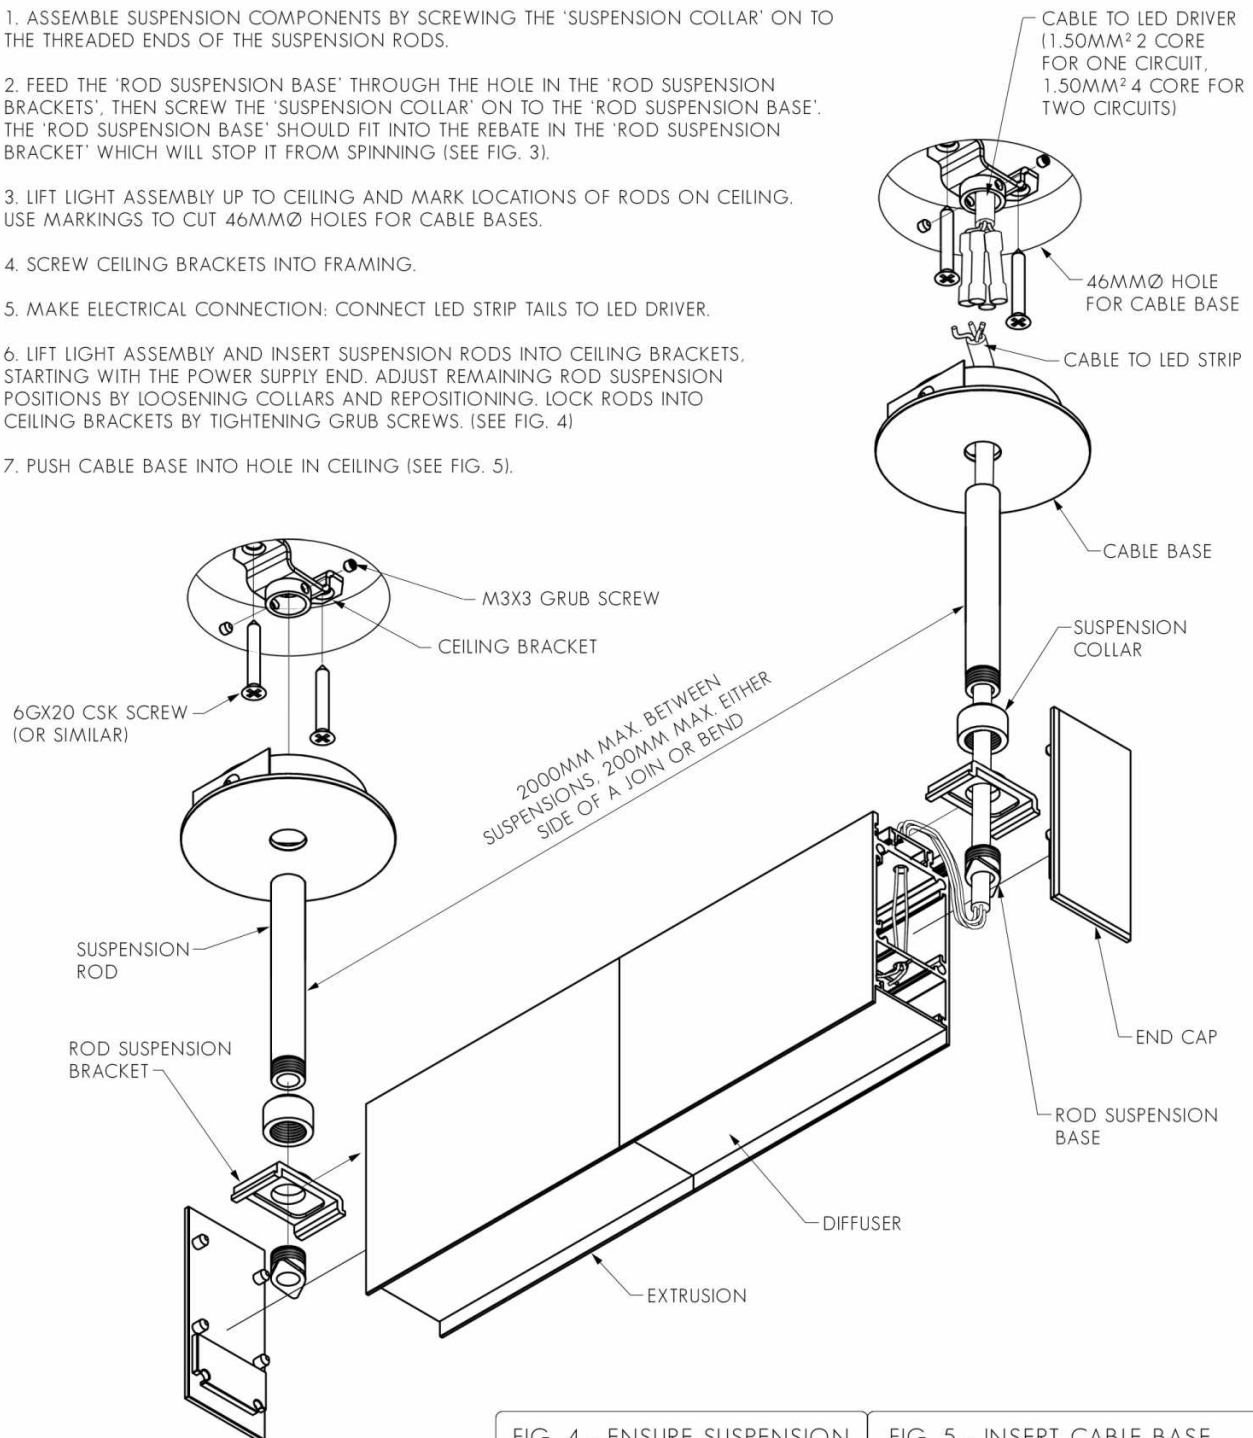

FIG. 3 - ENSURE ROD SUSPENSION BASE IS SECURE IN ROD SUSPENSION BRACKET
2. FEED THE 'ROD SUSPENSION BASE' THROUGH THE HOLE IN THE 'ROD SUSPENSION BRACKETS', THEN SCREW THE 'SUSPENSION COLLAR' ON TO THE 'ROD SUSPENSION BASE'. THE 'ROD SUSPENSION BASE' SHOULD FIT INTO THE REBATE IN THE 'ROD SUSPENSION BRACKET' WHICH WILL STOP IT FROM SPINNING (SEE FIG. 3).